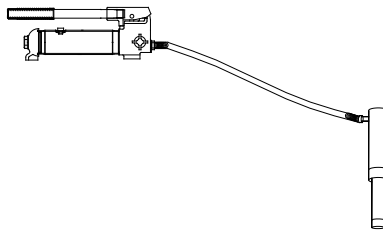

Figure 3 - Illustration to bleed air from system
1. Place pump at a higher elevation than the hose and ram as shown in figure 3.